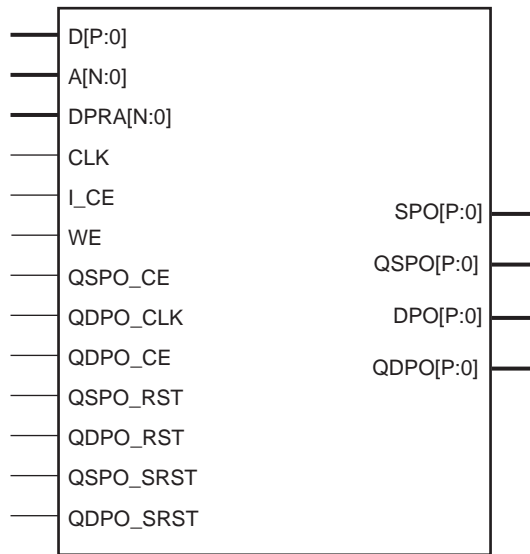
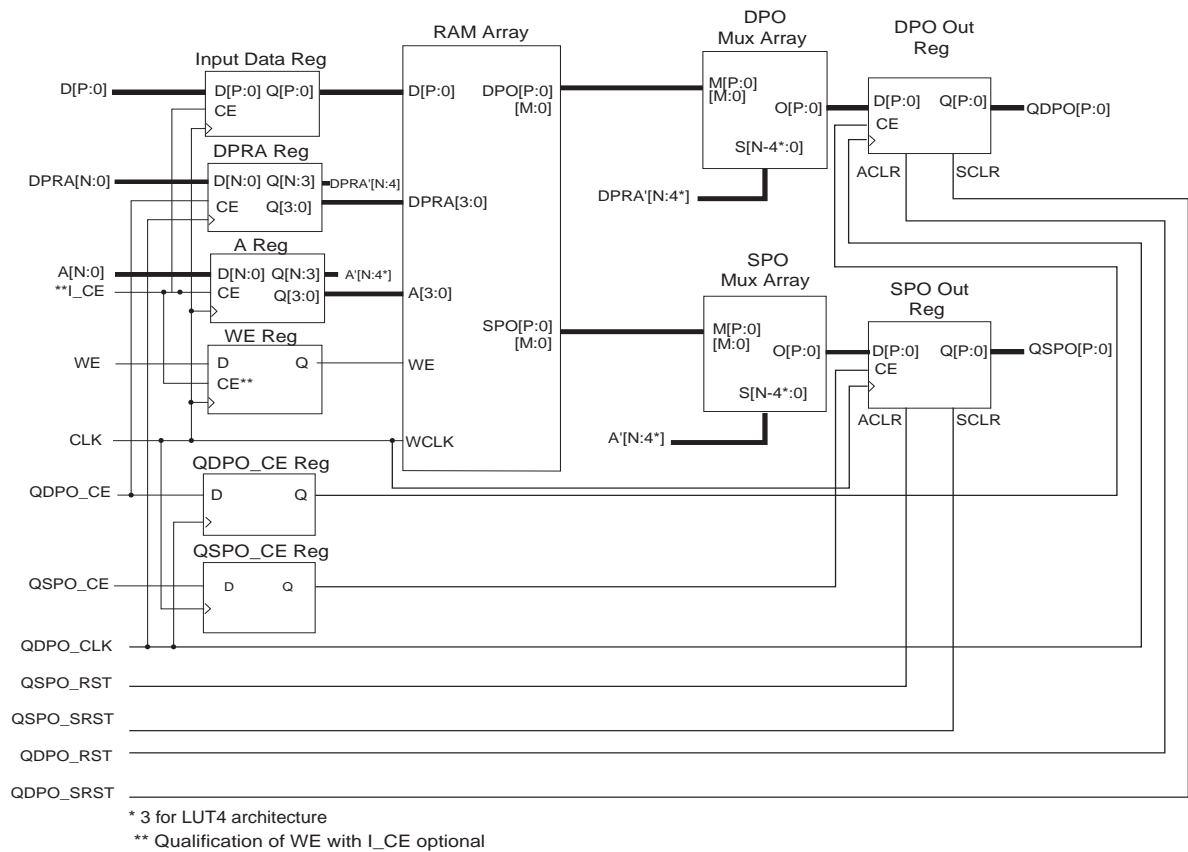

Figure 5: Dual-Port RAM Schematic Symbol
Figure 6: Dual-Port RAM Module Schematic
Writes to the distributed dual-port RAM are synchronous to the clock (CLK). However, read operations from the distributed dual-port RAM can be asynchronous or synchronous with respect to either of the two clocks (CLK or QDPO_CLK). Figure 5 illustrates the dual-port RAM schematic symbol, showing the relevant ports. Figure 6 shows the internal implementation of the distributed dual-port RAM. If a pipeline register is added to a registered core (not illustrated), the additional register is re-timed into the SPO MUX array and DPO MUX array.
- **Dual-Port RAM.** Figure 6 is a schematic of the structure of the dual-port RAM modules. The address and data registers are optional (controlled by the setting of the Input Options parameter). The dual-port read address register is optional (controlled by the setting of the Dual-Port Address parameter). Output registers for both output ports are also optional (controlled by the setting of the Output Options parameter). When registered outputs are selected, the two output ports can be